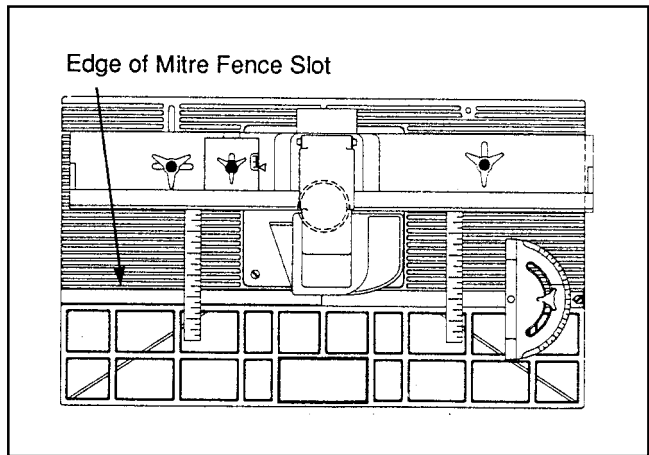

fig. Q.2
1. Measure the distance from each end of **Back Fence** to edge of **Mitre Fence slot** in the **Table Surface** as shown in fig. Q.2. Adjust the position of the **Back Fence** to ensure both distances are equal.
2. Position **Mitre Gauge** in slot as shown in fig. Q.2.